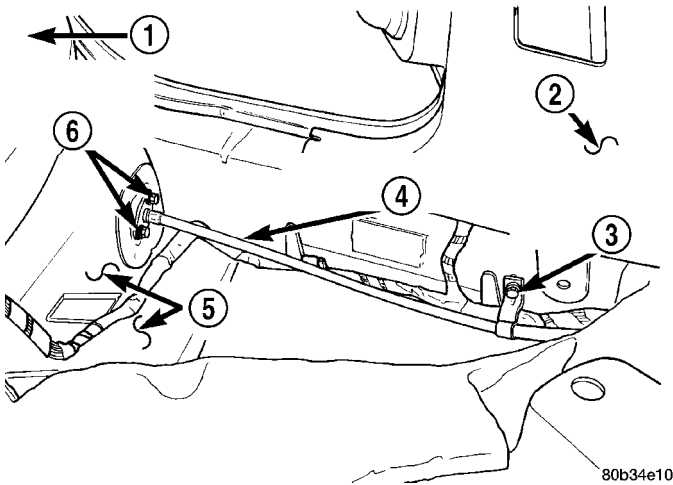
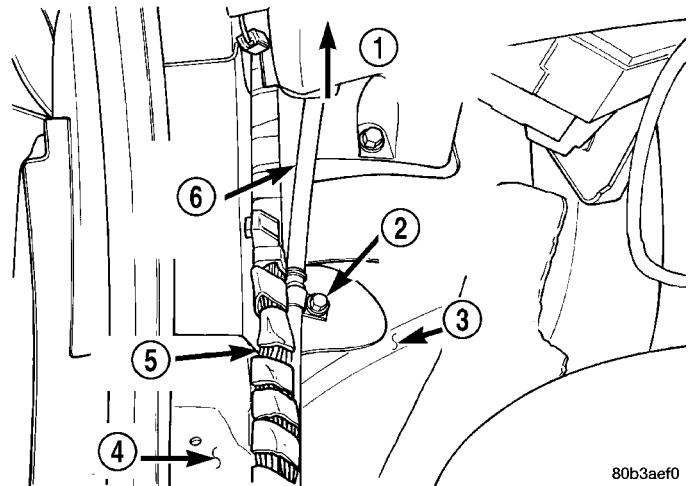

Fig. 108 Front Park Brake Cable At Rear Floor Pan
Fig. 109 Front Park Brake Cable Attachment At Front Floor Pan
(21) Pull back floor carpeting on left side of passenger compartment to reveal front park brake cable.
(22) Remove the screw securing the foot rest to the floor. Remove the foot rest.
(23) Remove the 2 screws securing the front park brake cable retainer bracket to the rear floor pan (Fig. 108).
(24) Remove 2 routing bracket screws securing front park brake cable to left side of the passenger compartment floor. One screw is at the base of the B-pillar by the seat belt anchor bolt (Fig. 108), and the other is below the park brake lever assembly on the floor pan (Fig. 109).
(25) Remove the rear bolt, and loosen the 2 front nuts on studs, securing the parking brake lever assembly in place.
(26) Lower the parking brake lever assembly enough to gain access to the warning lamp ground wire connector. Remove the brake warning light ground wire from the switch on the park brake lever assembly.
(27) Continue to move parking brake lever, with front park brake cable attached, downward, and remove both from vehicle together.